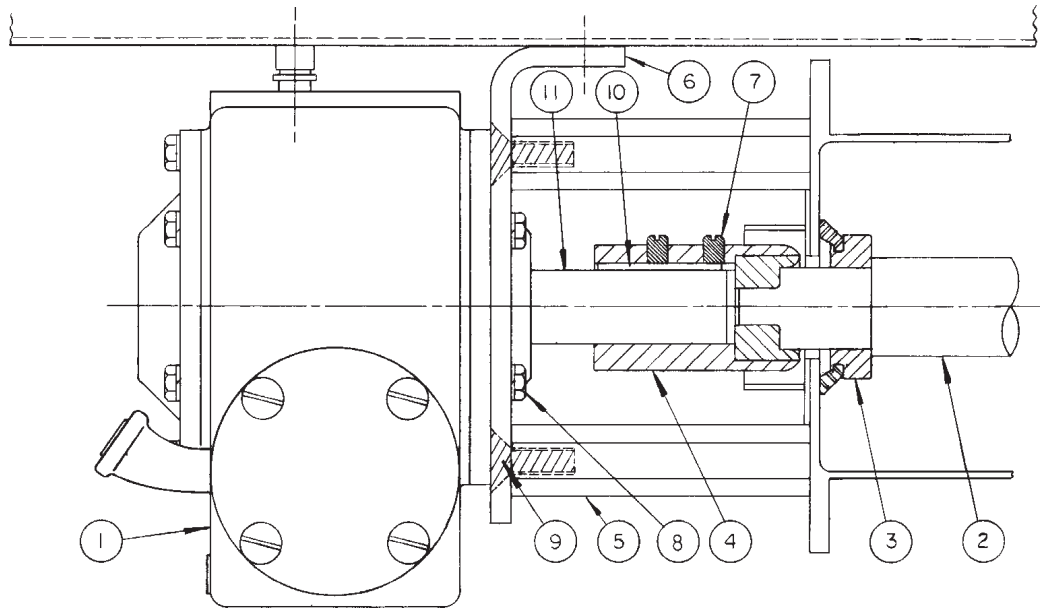

Figure 10-2
2. Remove beater shaft. (See figure 10-2 Ref.#2.)